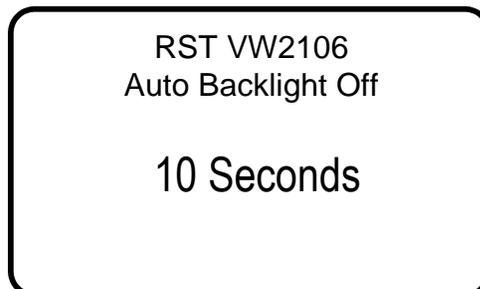

FIGURE 3-4 AUTO BACKLIGHT OFF
4. The next screen prompts the user to select the Auto Backlight Off (Figure 3-4). Use the up/down arrows to adjust the desired time and press **Enter**.